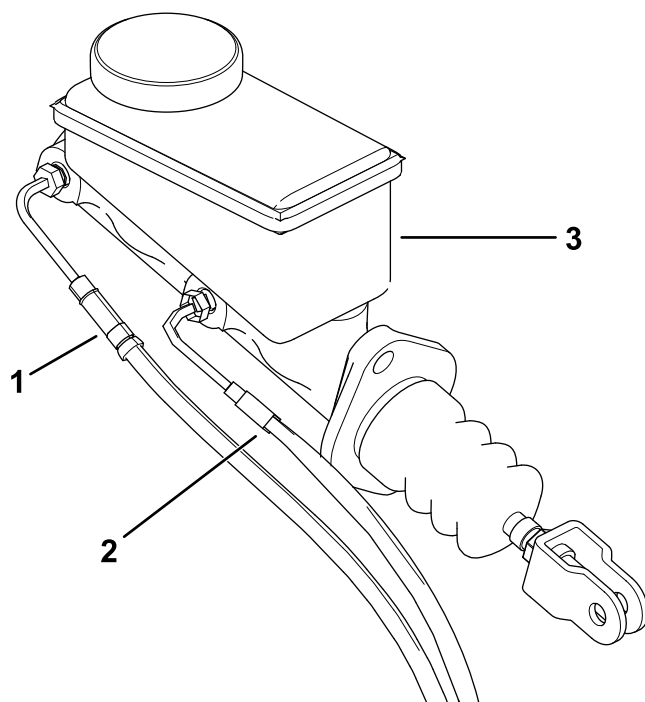

**Figure 4**
4. Remove the flange-head bolts (3/8 x 1 inch) that secure the brake-caliper assembly to the steering knuckle (front of the machine) and axle (rear of the machine), and remove the brake-caliper assembly (Figure 4).